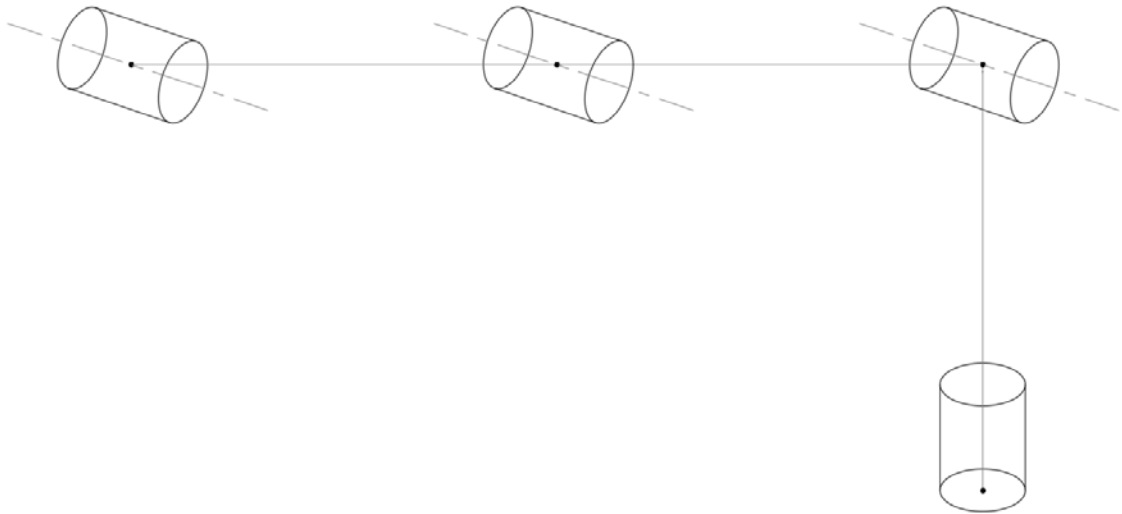

Figure 1.2 CRS robot (DH frames to be assigned)
- 1.2.1 Before practicing D-H convention, proper coordinate frames have to be defined. Figure 1.2 gives a sketch of the CRS robot arm with all the z axis of joints fixed. Label the rotation directions of all joints according to the positive direction you found in 1.2 above.
- 1.2.2 Use right hand rule to determine the direction of all z axis. Then, on figure 1.2, complete the D-H frame by properly adding x axes.